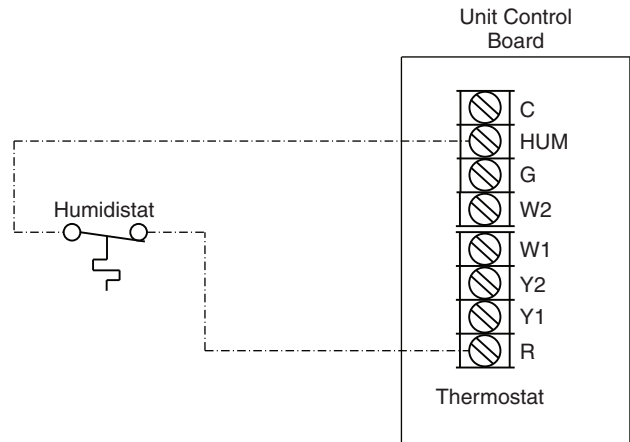

Fig. 39 — Humidistat Connections to UCB
3. Connect one of the leads from the 2-conductor cable to the HUM terminal on the UCB (Unit Control Board). Connect the other lead to the R terminal on the UCB. See Fig. 39.